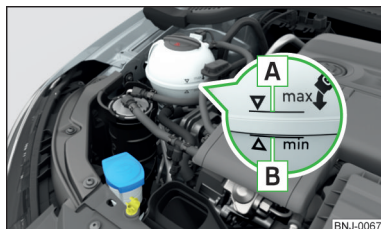

Fig. 169
The description of the coolant is shown in the coolant expansion reservoir » Fig. 169 on page 155.
- Do not fill the coolant above the mark A » Fig. 169 on page 155.
Coolant expansion reservoir » Fig. 169
➤ Check the level of coolant at the coolant expansion vessel » Fig. 169.
If the engine is warm, the test result may be inaccurate. The stand can also be above the mark **A** » Fig. 169.